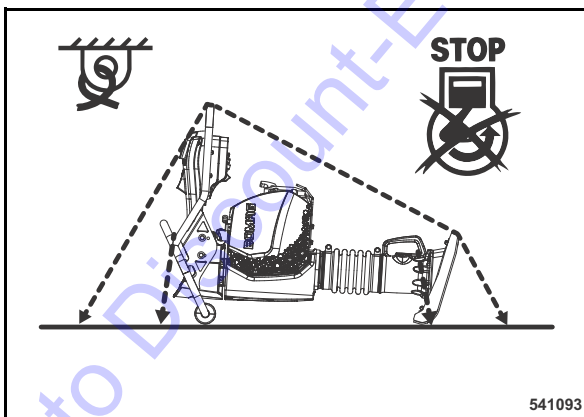

Fig. 31
- Lay down the tamper (Fig. 31) to transport it on the rollers.